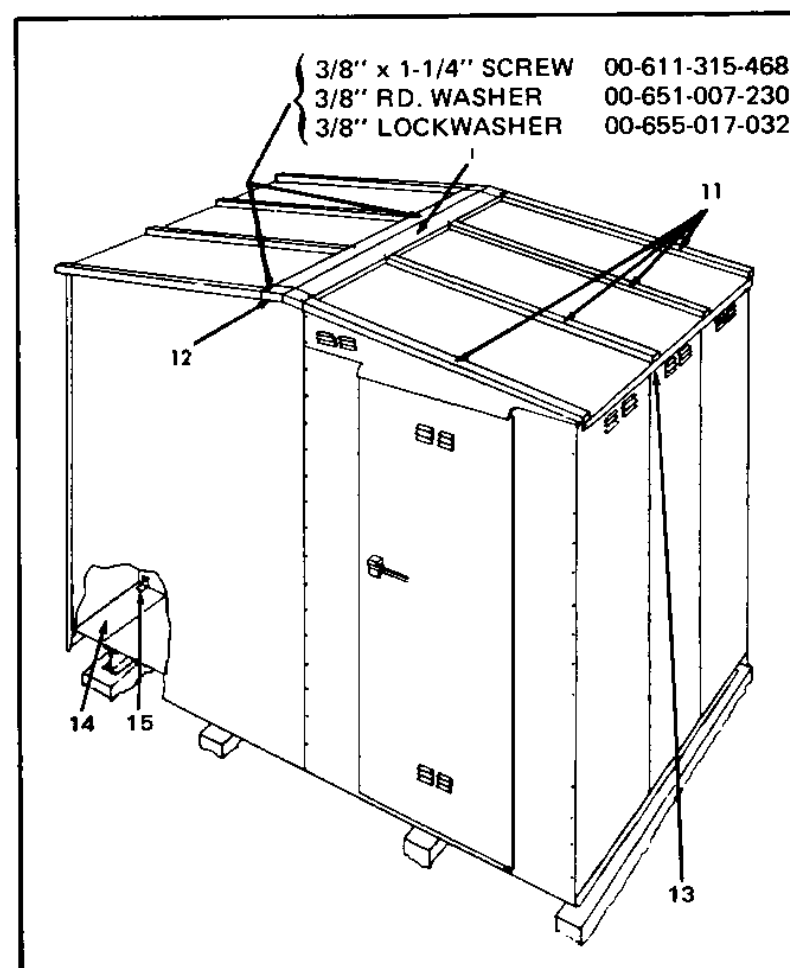

Figure 30. Roof Gable Installation - Single Aisle Layout
12. See Figure 30. Install roof gable assembly (1). Adjust the position of the gable and the channels (11) so that the channels fit into the notches of the gable.
13. Bolt roof gable assembly (1) into place using weld nuts in roof channels (11).
14. Add end gable assembly (12) at each end. Fasten cover (13) to roof.